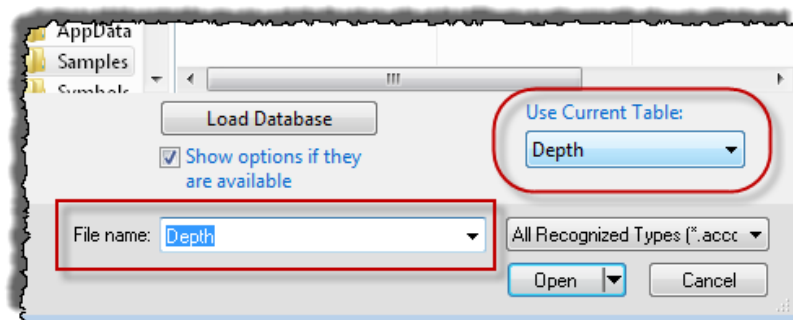

Figure 1.172 – Select the *Depth* table in the *Use Current Table* section and make sure it is selected in the *File name* box.
3. In the *Open* dialog, make sure that *Depth* is selected in the *Use Current Table* option and in the *File name* box, fig. 1.172.